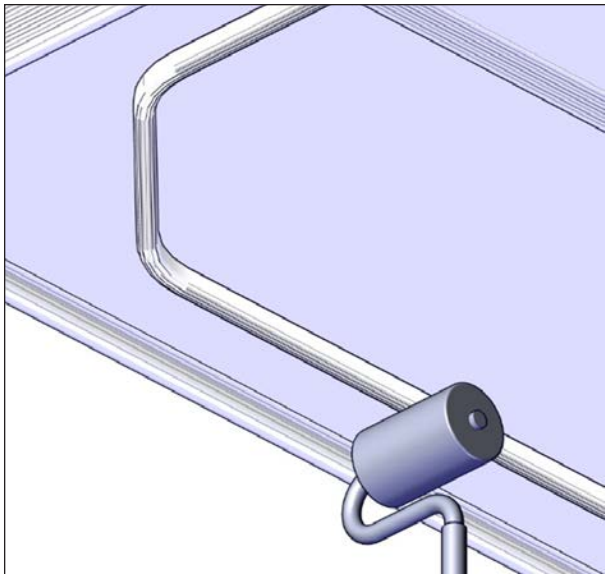

FIGURE 99: APPLY PRESSURE WITH ROLLER
- Once satisfied that the seal is released, raise the cover 36" (91 cm) high. Apply a minimal pressure of 15 psi (103 kPa) on the seal with the roller as shown in Figure 99 to properly bond the adhesive to the underside of the cover.